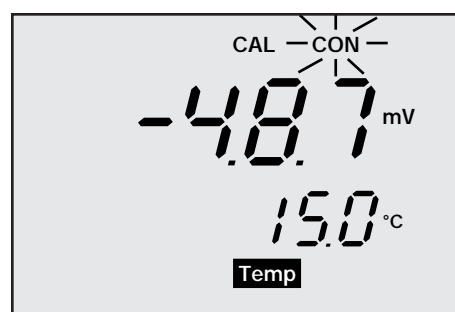

Figure 10
5. Once you selected the correct temperature, press CON to confirm. The CON indicator flashes for one second and disappears. See Figure 10.